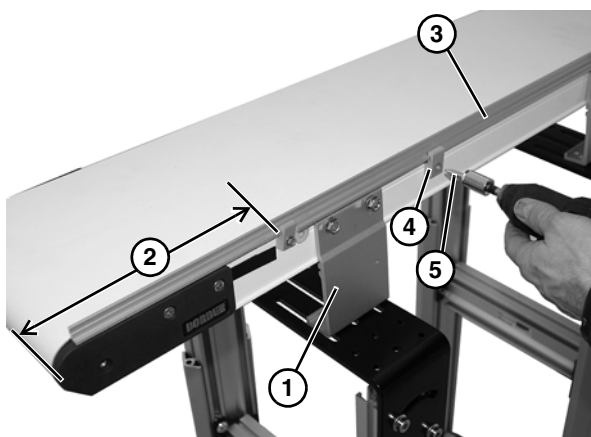

Figure 24
1. Lay out retaining clip (**Figure 24, item 1**) locations. The end clips should be no greater than 12" (**Figure 24, item 2**) from end of the conveyor.
2. Hold guide (**Figure 24, item 3**) and retaining clips (**Figure 24, item 4**) to conveyor side rail. Install self-drilling screws (**Figure 24, item 5**) following the "Proper Methods of Attachment to Side Rails (2300 Series Only)" on page 15 procedure.